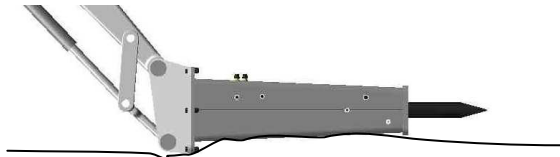

Figure 17
4. Push from the other side, and fit the tool completely into the guide [Figure 17]. Rotate the tool so that its milled side sets parallel to the pin guide. Insert the tool retainer pin.